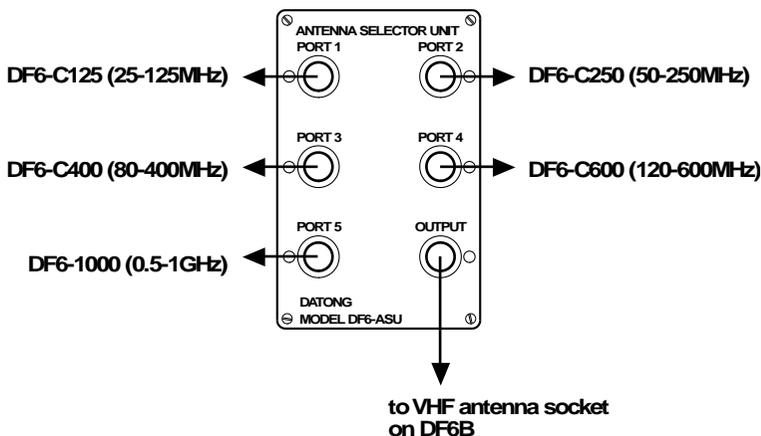

Figure 3.5 ASU Connections
3.6 Siting and Connecting an ASU (Figure 3.5)